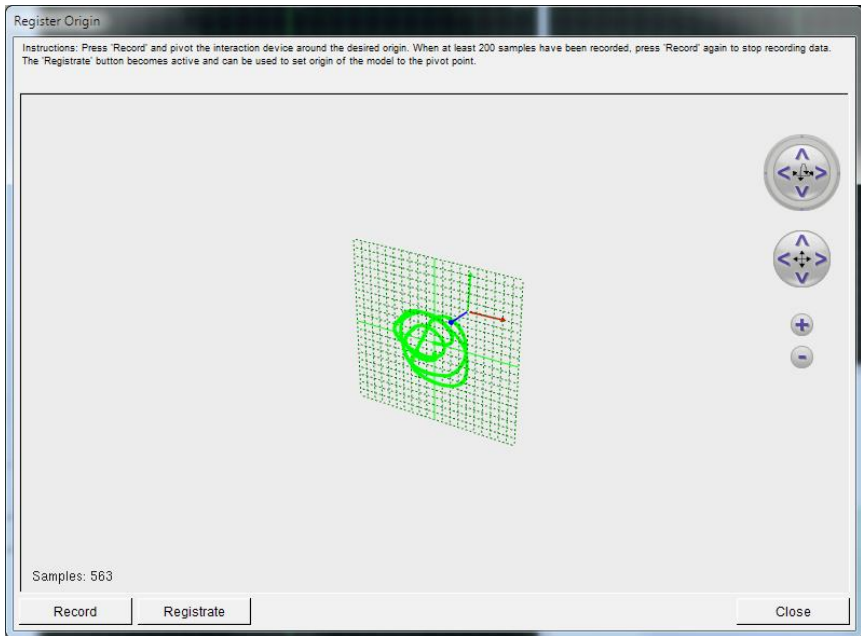

Figure 6.14. Register Origin Dialog
5. The “Registrate” button will become active (see Figure 6.14). Press this button to calculate a new origin.